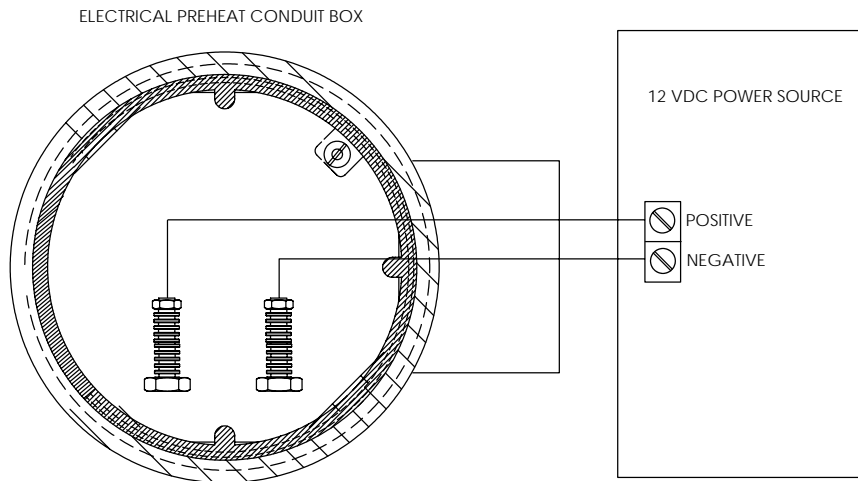

Figure 47 Electrical Pre-heater Wiring Instructions
- 1) Using the wiring instructions shown in Figure 47 and Manufacturers Instructions enclosed with Heater, make external connections.